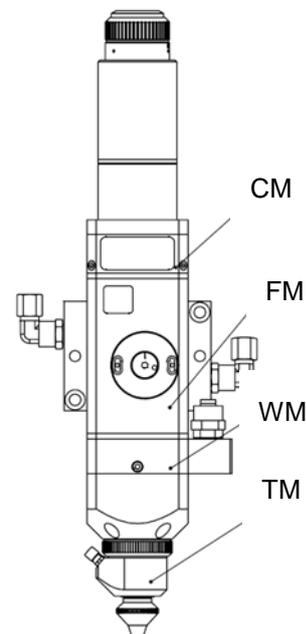
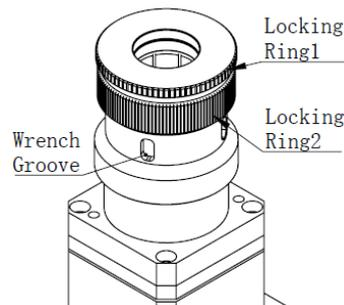

Figure 1 Cutting Laser Head Shown
Figure 5. Fiber Orientation
See Figure 1, a laser head contains 1) a collimation module CM, 2) a focusing module FM, 3) a protection window module WM, 4) a nozzle module TM.
Common fiber connectors include QBH, QD. Other connections are available too, such as 14, 24, 25, 30 mm grip rings (See figure 5). Each fiber connector has its own unique method of securely attaching the fiber. Refer to the fiber type for specific instructions. QBH connector is illustrated in Figure 1.
- (1) See Figure 5, loosen locking ring 1 and 2.
- (2) Input the fiber connector horizontally
- (3) Tighten locking ring 1 and 2. Use a wrench if necessary.